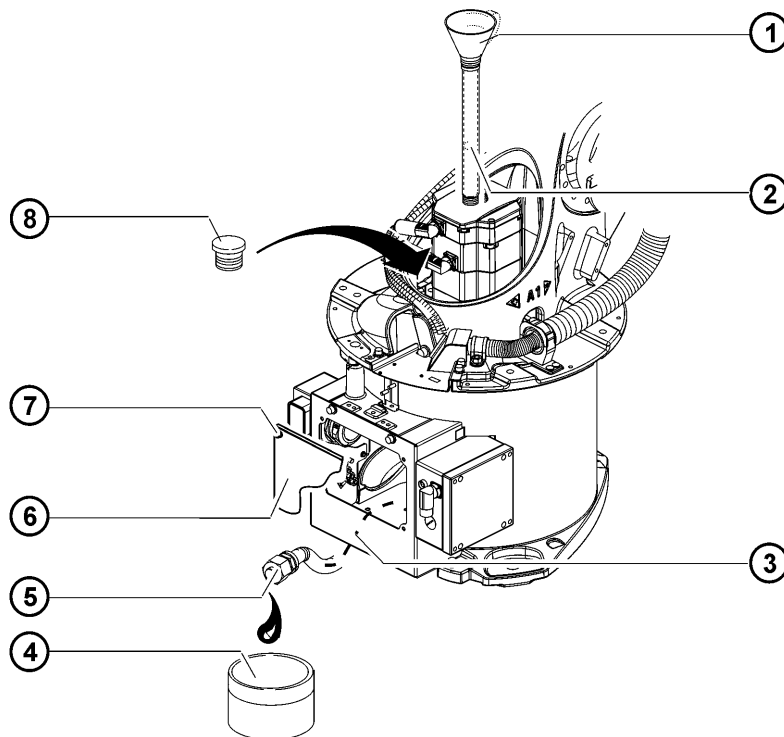

Fig. 9-10: Oil change on axis 1
1. Remove 4 M6x10 Allen screws and lock washers (>>> Fig. 9-10), and take off the cover.
1. Pour the specified amount of oil into the filler hole of the magnetic screw plug (>>> Fig. 9-10).